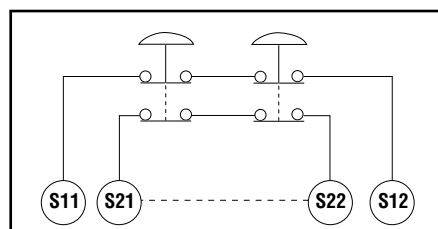
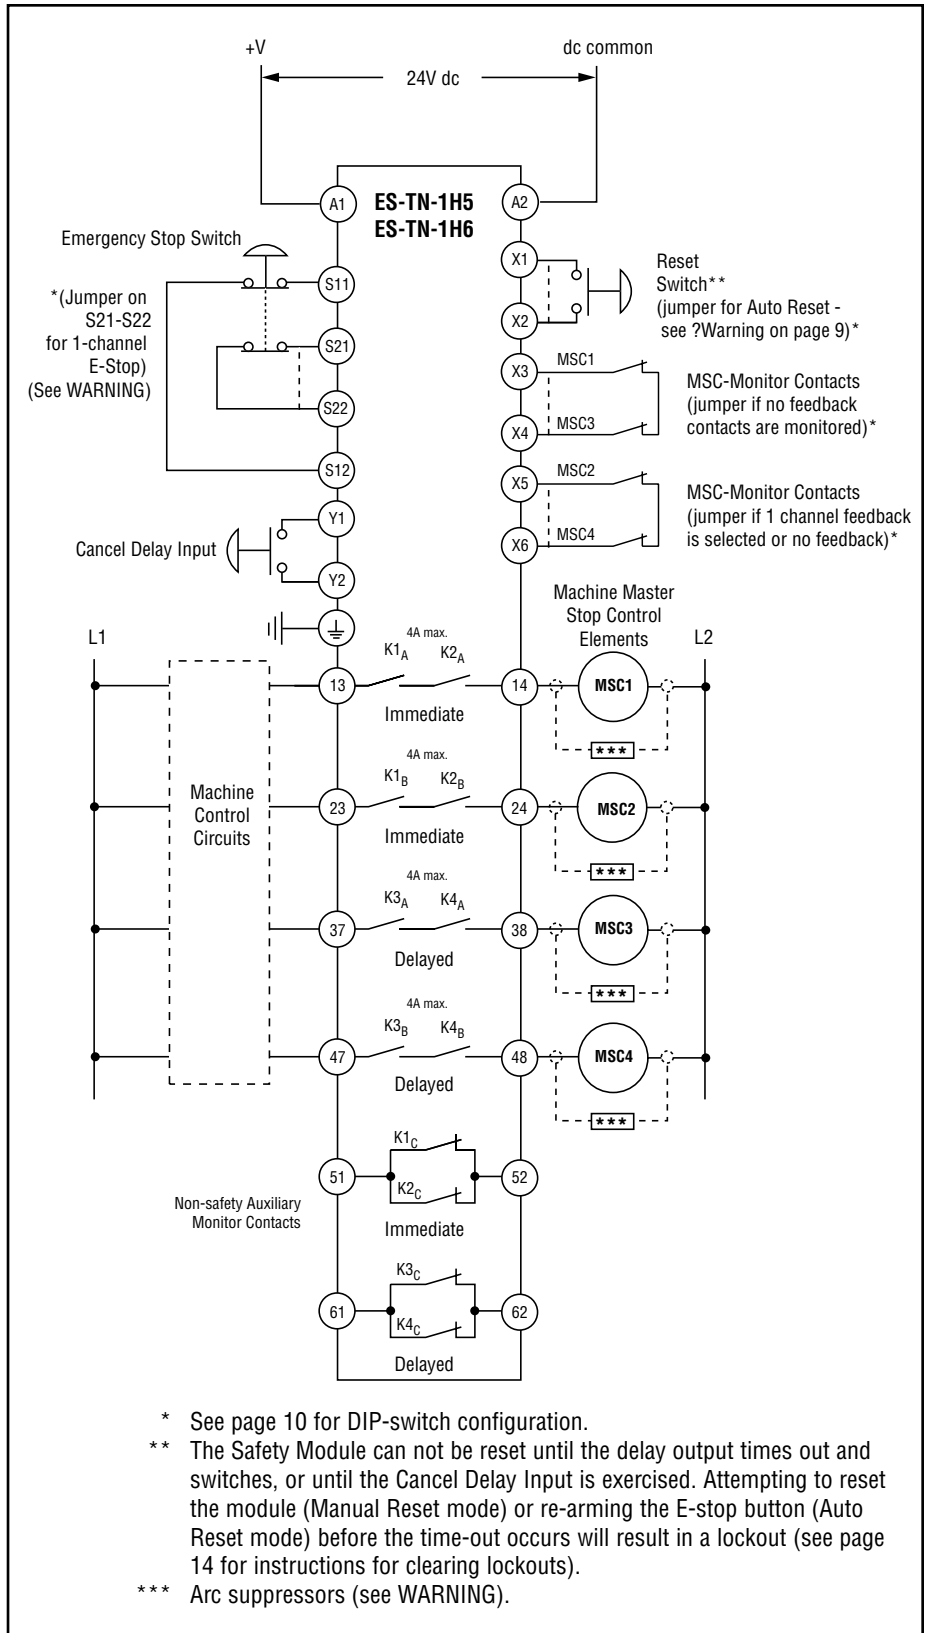
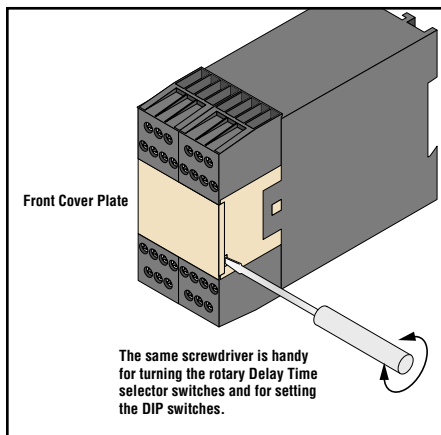

Figure 2. Series connection of multiple E-Stop switches. Jumper between S21 and S22, if 1-channel E-stop is selected.
Figure 3. E-Stop Safety Modules ES-TN-1H5 and -1H6 hookups
Figure 5. Use a screwdriver to gently pry the cover loose from the Module housing.
The purpose of an Emergency Stop Safety Module (E-Stop Safety Module) is to increase the control reliability of an emergency stop circuit. As indicated in Figures 2 and 3, the E-Stop Safety Modules described in this document are designed to monitor a 1-channel or 2-channel E-stop switch. A 2-channel E-stop switch has two electrically isolated contacts.
The outputs of E-stop Safety Modules ES-TN-1H5 and -1H6 are two redundant normally open *immediate* safety contacts (each of which is a series of two forced-guided relay contacts, K1 and K2 in Figure 2), and two redundant normally open *delayed* contacts (also each a series of two forced-guided relay contacts, K3 and K4). The delayed contacts may be used in a functional stop Category 1 application.
As shown in Figure 2, the E-stop switch must provide one or two contacts which are closed when the switch is armed. Once activated, the E-stop switch must open all its contacts, and must be returned to the closed contact position *only* by means of a deliberate action (such as twisting, pulling, or unlocking). The switch should be a “positive-opening type,” as described by IEC947-5-1. A mechanical force applied to such a button (or switch) is transmitted directly to the contacts, forcing them open. This ensures that the switch contacts will open whenever the switch is activated. NFPA 79 section 13.2, Emergency Stop Devices, specifies the following additional switch (“stop control”) requirements:
Connect the poles of the E-stop switch as shown in Figure 3. The switch in Figure 3 is shown in the "armed" position with both contacts closed. Multiple E-stop switches connected to one E-stop Safety Module must be series connected (see Figure 2 and the warning on page 8).
The Reset Circuit switch can be any mechanical switch, such as a normally open momentary switch, or a two-position key switch. The Reset switch must be capable of reliably switching 18-30V dc at 10-25 mA. As shown in Figure 3, the Reset switch connects between terminals X1 and X2 of the Safety Module. A reset will occur after the Reset button goes from open, to closed, and back to open state.
To satisfy the requirements of Safety Category 4 of EN 954-1, the Master Stop Control elements must each offer a normally closed, forced-guided monitor contact. For **2-channel monitoring**, one normally closed monitor contact from one Master Stop Control element, controlled by one of the immediate output contacts from the E-Stop Safety Module, is wired in series to one normally closed monitor contact from one Master Stop Control element, controlled by one of the delayed output contacts from the E-Stop Safety Module, to input X3-X4. The same configuration (one immediate N.C. series connected to one delayed N.C.) is wired to X5-X6 (Figure 3). In operation, if one of the switching contacts of any Master Stop Control (MSC) element fails in the shorted condition, the associated monitor contact will remain open, making reset of the E-Stop Safety Module impossible.
There is no specific feedback input to which the immediate MSCs must be connected. However, two immediate contacts (from two MSCs) or two delayed contacts (from two MSCs) should not be connected to the same input. If **1-Channel Monitoring** is selected, input X5-X6 must be jumpered, the Module configured for 1-Channel Monitoring (see Figure 3) and all monitoring contacts must be wired in series to X3 and X4. **See 1-Channel, 2-Channel, or No External Device Monitoring on page 10 for more information.**
The hookup diagram (Figure 3) shows a generic connection of the E-Stop Safety Module's four redundant output circuits to Master Stop Control elements MSC1 through MSC4. A Master Stop Control element is defined as an electrically powered device, external to the E-Stop Safety Module, which stops the machinery being controlled by immediately removing electrical power to the machine and (when necessary) by applying braking to dangerous motion. This stopping action is accomplished by removing power to the actuator coil of any Master Stop Control Element.
The E-Stop Safety Module may be configured for Automatic Reset via two independent DIP switches, located inside the Module housing, under the front cover (see Figures 5 and 6) and by replacing the Reset switch with a jumper wire in the X1-X2 reset input circuit (see Figure 3).
If 1-channel monitoring is selected (see Figure 6), one or more normally closed contacts from the MSCs must be wired to terminals X3-X4. If more than one contact is used, they must be wired in series (see Figure 3). The second channel (X5-X6) must be jumpered. The Module will reset only if both inputs are closed. After the unit is reset, the state of the X3-X4 input is irrelevant.
If both pairs of output contacts (both immediate and delayed) are used, and MSCs from all four contacts are controlled (Figure 3), both an immediate MSC and a delayed MSC contact must be connected in series to each of the two feedback inputs.
The DIP switches and selector switches are located inside the Module housing, behind the front plate. Before adjusting any settings, turn OFF power to the Module. Remove the front plate by using a screwdriver in the slot on the right side and gently prying the cover away from the housing (Figure 5). Turn the rotary Delay Time selector switches to the desired position using the same small screwdriver in the slot on the arrow. Use the screwdriver blade to slide the DIP switches to their proper positions also.
3. Remove the E-Stop Safety Module front cover, (see Figure 5).